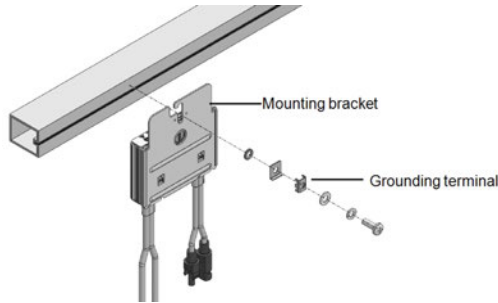

Figure 7: Power optimizer grounding terminal
- **For mounting on un-grounded structures** (such as a wooden structure): If the star washer or the plate cannot be used, use the SolarEdge grounding lug (purchased separately) with an equipment-grounding conductor according to the supplied instructions. The grounding terminal accepts a wire size of 6-14 AWG, and must be sized for equipment grounding per NEC 250.122 requirements. Tighten the screws connecting the power optimizer to the frame and the grounding terminal screw. Apply torque of 9.5 N*m / 7 lb*ft. See *Figure 7*